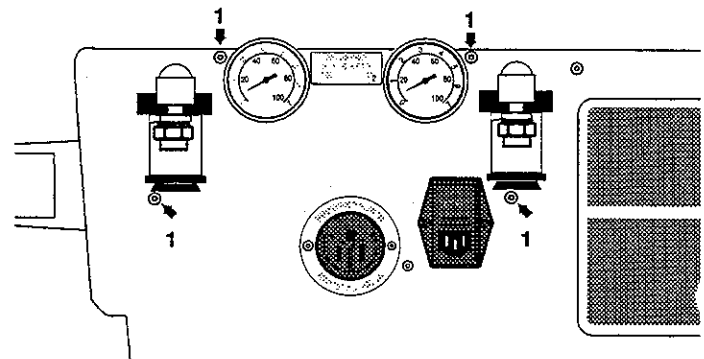

Figure 8-5
5. Remove the four screws (Figure 8-5, Ref. 1) and lift the manifold from the ventilator.